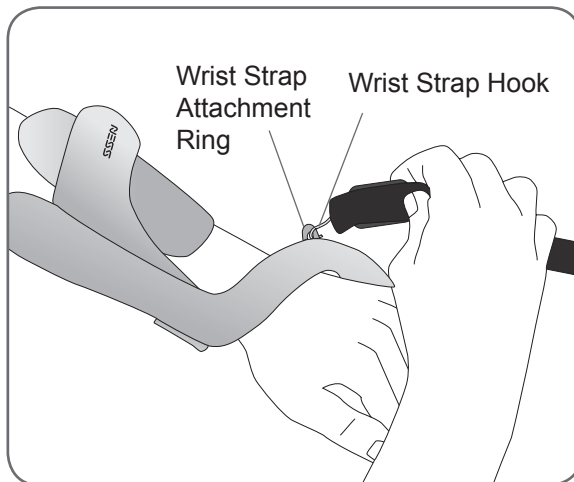

Figure 8-13: Attaching the Orthosis wrist strap.
6. Attach the hook on the Orthosis wrist strap to the wrist strap attachment ring. See Figure 8-13.